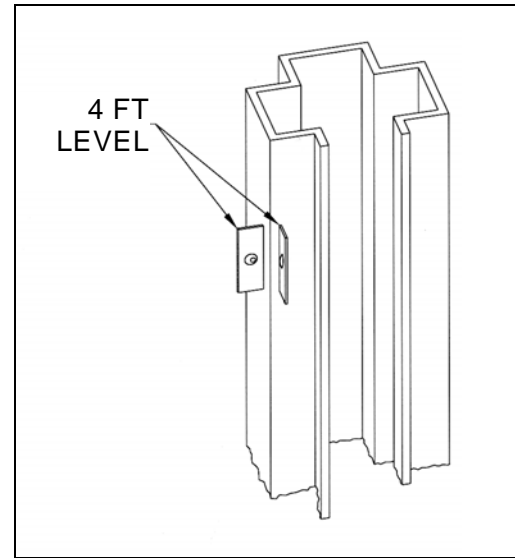

Figure 9. Post leveling
6. Use a 4' level, to level the posts. Refer to Figure 9.